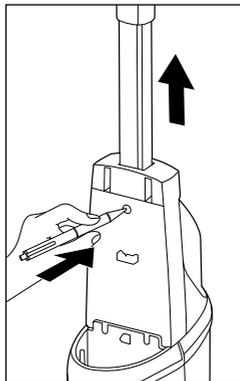

Fig. 2
- ▶ If you want to remove the hand element ❶ from the appliance, you must first remove the fresh water tank ❶ from the appliance to reach the catch of the hand element ❶ (see section **Filling the fresh water tank**). Once you have removed the fresh water tank ❶, press the catch on the hand element ❶ out of the catch opening with a pointed object. You can then pull the hand element ❶ back out of the appliance (see fig. 2).